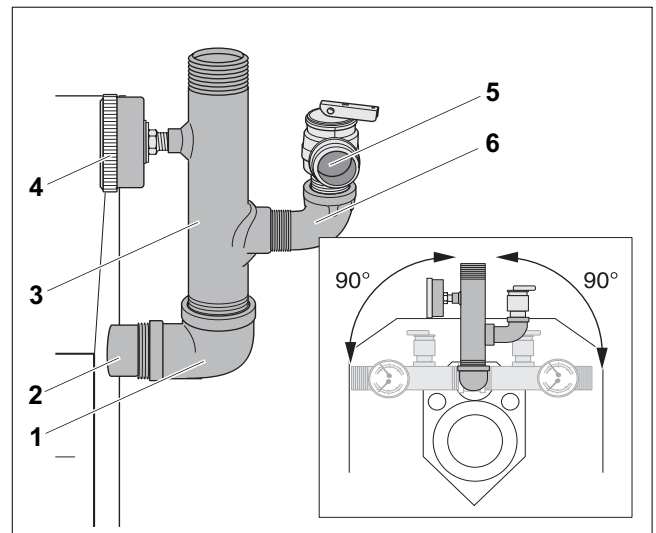

Fig. 23 B-Kit Installation
- Use the 1-1/4" BSP x NPT conversion nipple and install the unmarked end into the supply (VK) connection of the boiler. This side also has longer thread length and the thread is straight (BSP).
- Install supply manifold into elbow and orient in desired direction (Fig. 23).
- Plug relief valve connection (→ Fig. 23, page 31) and all boiler openings with plugs. (Not supplied).
- When no leaks are found, remove plug, drain water and install relief valve (→ Fig. 23, page 31).